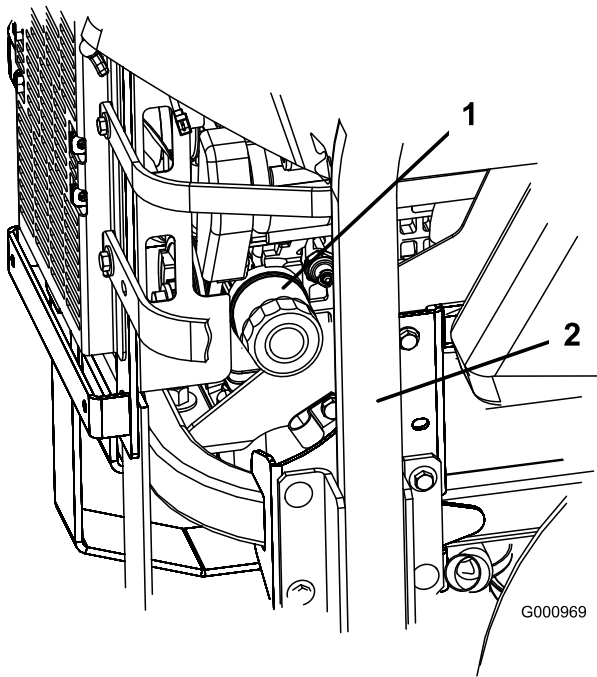
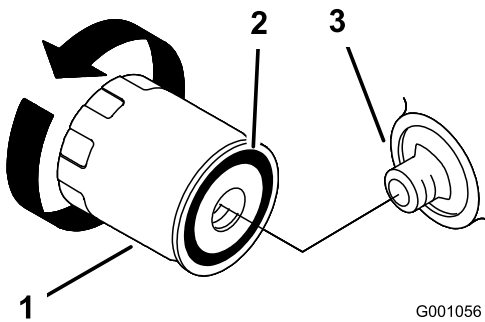

Figure 52
Figure 53
2. Turn the filter counterclockwise to remove it (Figure 52 and Figure 53).